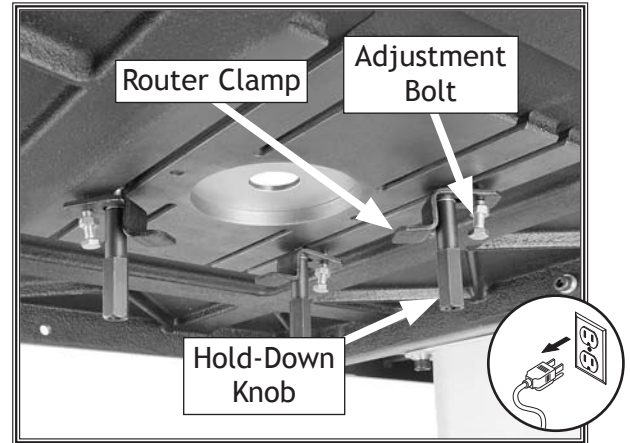

Figure 17. Router hold-down assembly controls.
2. Slide three of the router hold-down assemblies into the T-slots underneath the router table so that they allow room for the router base, as shown in **Figure 17**.